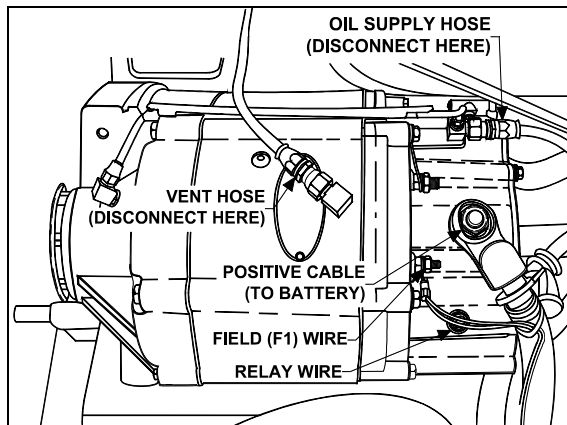

FIGURE 24: ALTERNATOR (HOSES AND WIRES) 06073
4. Scratch off protective sealer from electrical connections (relay, field and positive terminals). Refer to figure 24.
5. Disconnect wire #25 from the relay terminal, wire #107 from the field "F1" terminal and disconnect battery cable from the positive "+" terminal on the diode end cover. Tag wires removed to ease identification at time of installation. Refer to figure 24.
6. Disconnect oil supply line and vent hose from top of alternator (Fig. 24) and tape